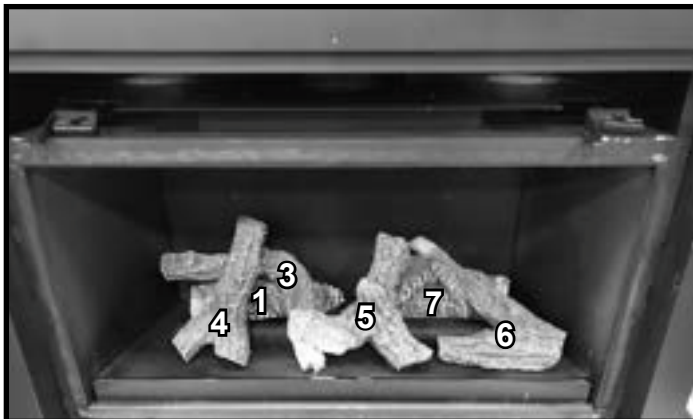

Figure 23. Place Log #4
14. Install Log #4 by placing the forked end down onto the base pan and leaning the top end of Log #4 back so that it is resting on Log #3. The forked end should contact the two log placement tabs. See Figure 23.